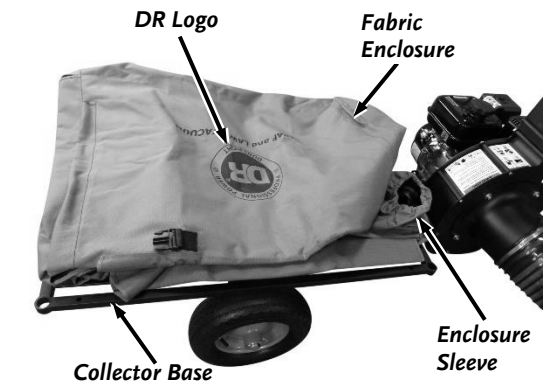

Figure 22
1. Unfold the fabric Enclosure and place it onto the Collector base (**Figure 22**). Position the Enclosure with the DR logo facing up and the Enclosure Sleeve positioned at the front right hand corner.